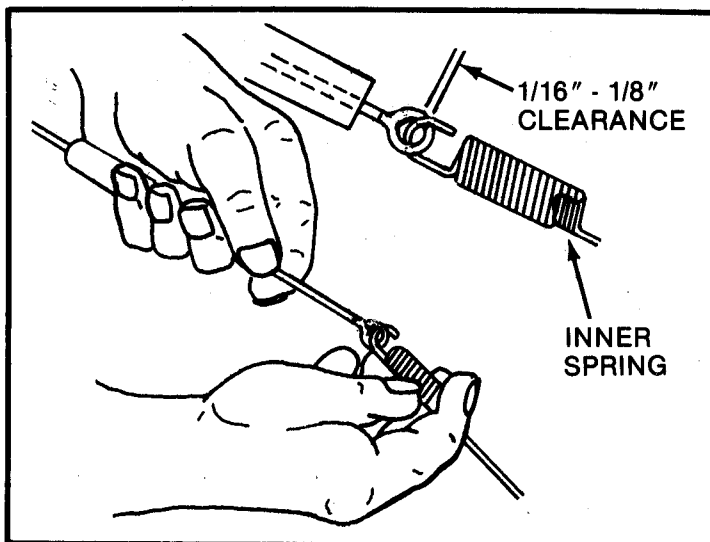

FIG 8 - CLUTCH LINKAGE ADJUSTMENT
Make sure the vinyl cover remains over the spring(s) connecting the clutch cable to the clutch idler components (see Figure 8). This not only keeps the spring clean but prevents it from rubbing against and wearing a hole in the grass bag on mowers so equipped.
**ADJUSTMENTS:** If excessive pressure is required to hold the wheel drive clutch lever in the engaged or drive position, the clutch cable springs are probably out of adjustment. This is checked with the engine stopped and the clutch handle released. When properly adjusted there should be 1/16" to 1/8" clearance between the inside hook of the spring and inside eye of the push rod as shown in Figure 8. To adjust, unhook and rotate the inner and outer springs in opposite direction, rehook and check clearance.